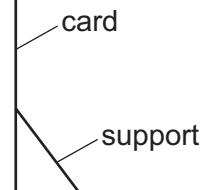

Fig. 3.3
- (iv) Screen. A white sheet of stiff card, approximately 15 cm  $\times$  15 cm and fixed to a wooden support, is suitable. See Fig. 3.3.